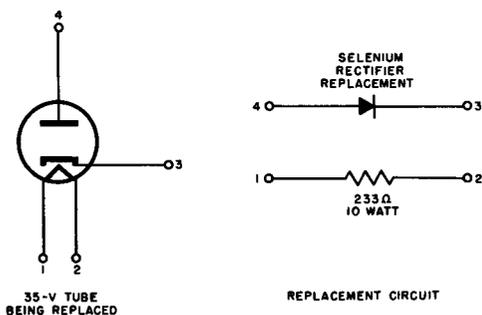

Fig. 7-5. Replacing a 35-volt rectifier tube with a selenium rectifier.
4. a. For replacing 35-volt rectifier tubes, remove the tube and insert the selenium rectifier as indicated in Fig. 7-5.